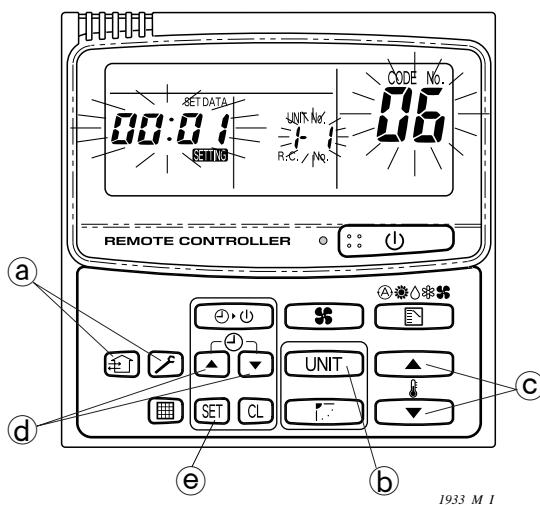

Fig. IV-10
(G) Change the shift temperature in heating mode (Ref. Fig. IV-10)
- ① Press the + buttons at same time for more than 4 seconds.
- ② In case of group control, if you want to change all units in group control collectively, proceed next step remaining ALL displayed.